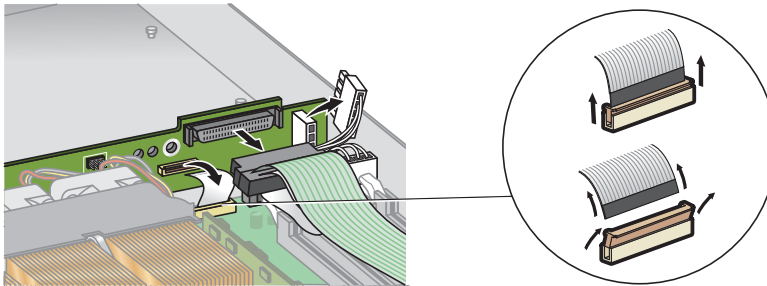

FIGURE 4-11 Uncabling the SCSI Backplane
6. Disconnect the 5-pin power cable, the small, flat cable and the 68-pin ribbon signal cable from the SCSI backplane (see FIGURE 4-11).